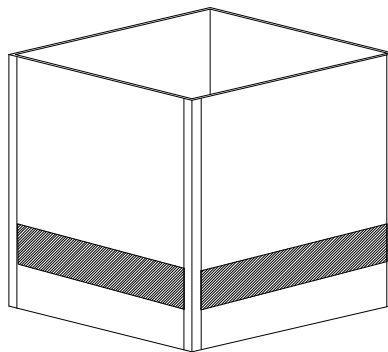

Fig.2
B.) Continue securing panels together until box is completely assembled. (Fig.2)